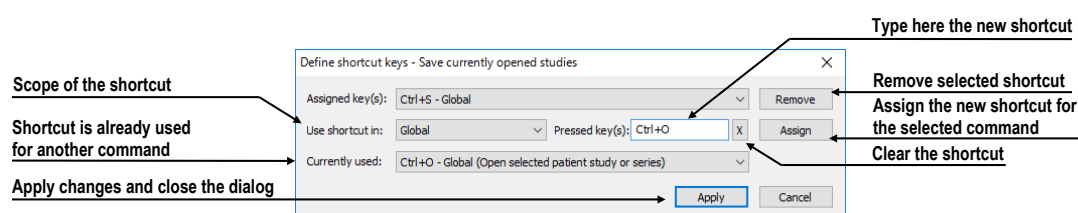

Figure 74 - Define shortcut keys dialog
3. The **Define shortcut keys** dialog is then displayed (see Figure 74). Press the key or key combination for the new shortcut. The key or key combination pressed is shown in the **Pressed key(s)** box. To re-select the combination, press the **Backspace** key. The key combination will be cleared, and a new one can be entered.